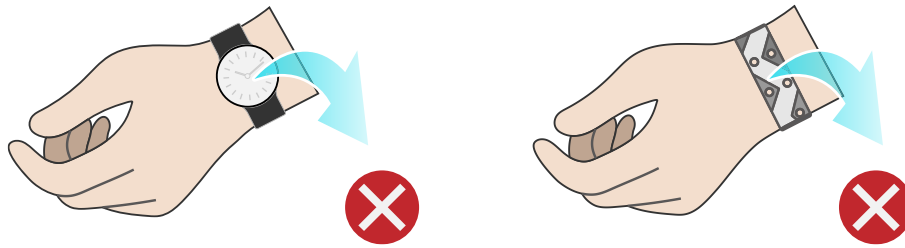

Figure 9-2 Removing Conductive Objects
- Before touching the equipment, put on ESD clothes and ESD gloves or an ESD wrist strap, and remove any conductive objects such as wrist watches or metal jewelry, as shown in Figure 9-2, in order to avoid electric shock or burns.